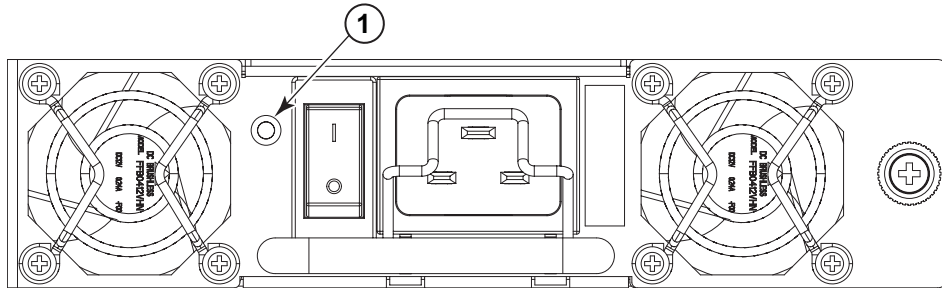

Figure 18. Power supply LEDs
1. Check the LED indicator on the power supply (see Figure 18 on page 46). The LED patterns may temporarily change during POST and other diagnostic tests; for information about how to interpret the LED patterns, see Table 13 on page 46.